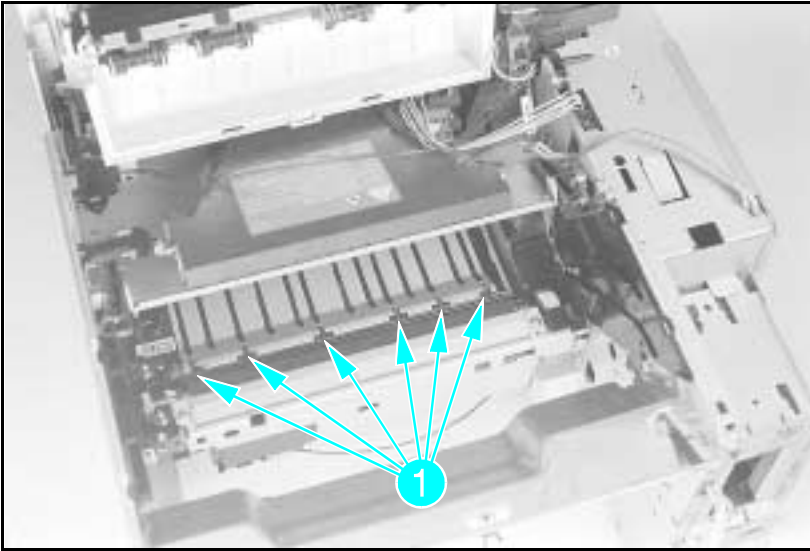

Figure 6-53 **Paper Guide Rollers**
- 3** Remove the (6) rollers from the High Voltage Contact Plate (see Figure 6-53 callout 1).